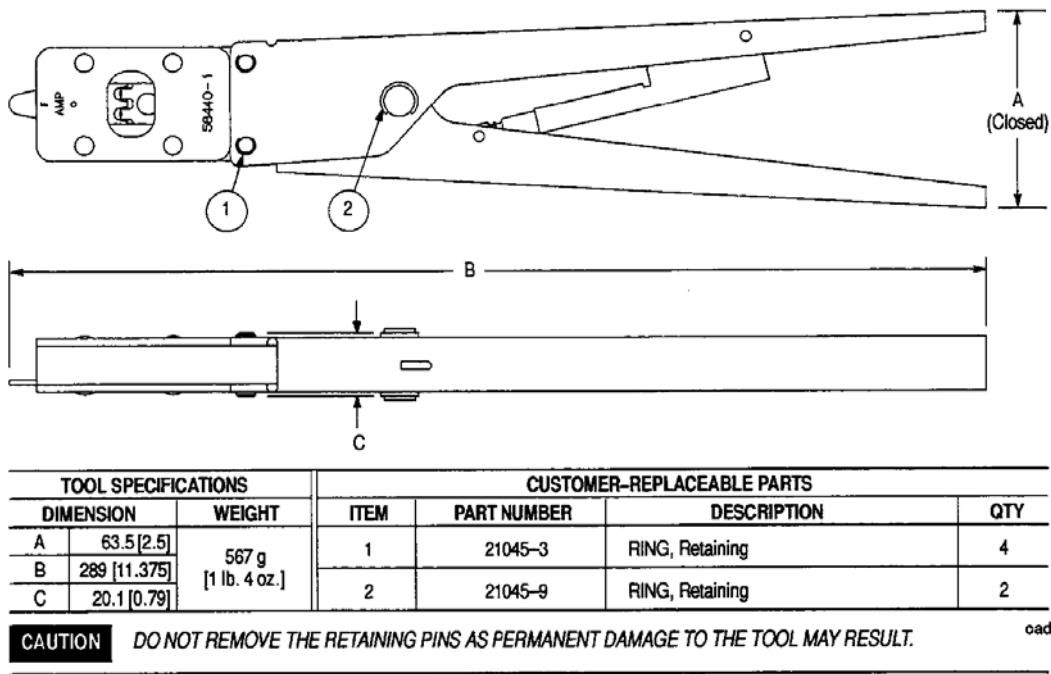

Figure 4
Customer-replaceable parts are listed in Figure 4. A complete inventory should be stocked and controlled to prevent lost time when replacement of parts is necessary. When parts are needed, order by part number and description.
2. Make certain all retaining pins are in place and secured with retaining rings. If replacements are necessary, refer to parts listed in Figure 4.